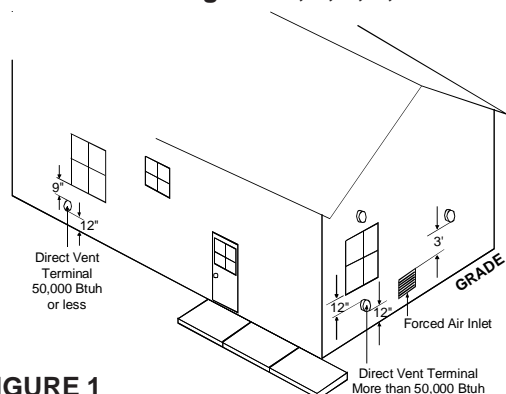

FIGURE 1
- Determine termination locations based on clearances specified in furnace installation instructions, and following steps as shown in **Figures 1, 3, 6, 7, 8 and 9.**